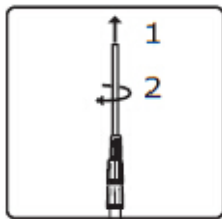

fig.6
1. Adjust the pole to its maximum height by sliding it upwards then tightening up the three screws. (fig.6)